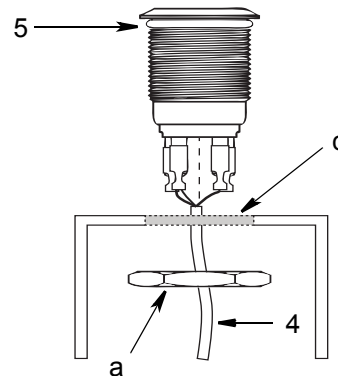

FIG. 2
5. Route and secure wire harness (4) from G3 installation location. Trim excess wire length from wiring harness (4).
6. Strip approximately 1" of harness jacket and 1/4" of conductor back. Install quick connectors (2) to wires (4) using a crimp connector.
7. Insert end of wires (4) from the back side of panel or plate, through lock nut (a) and through hole in panel or plate (c) (FIG. 2). (Note location of o-ring (5) for correct installation.)